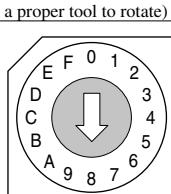

Fig. 2: Rotary S/W P2
- If cycle isn't stable, switch off electrical supply, adjust switch P2 (Refer to fig. 2, graph).